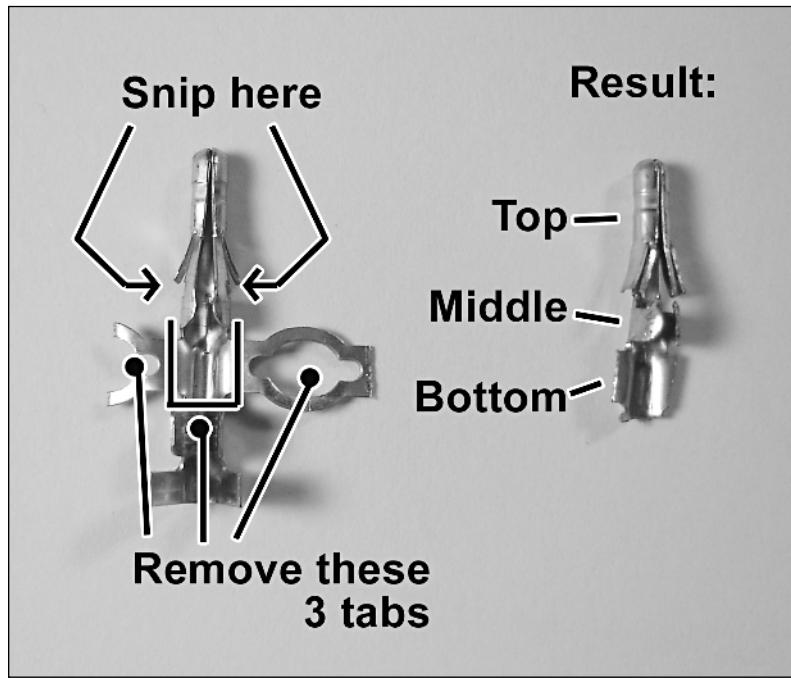

FIGURE 13-17: Where to snip the lead and what the resulting portions are called.
1. The male Molex leads come connected together. Snip them apart, and then continue snipping, as shown in Figure 13-17. Get your soldering iron heated up, as you'll be using it very soon.